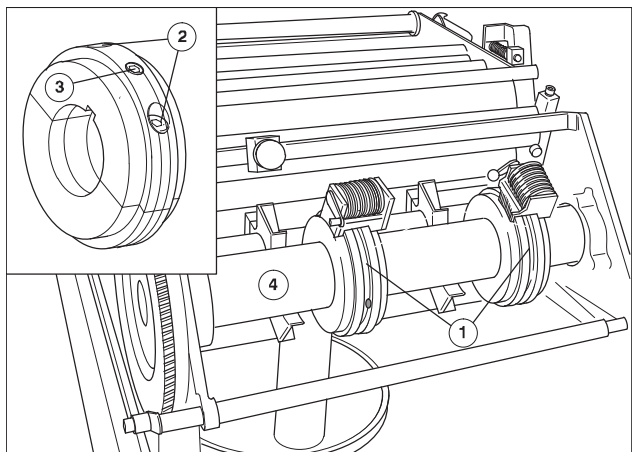

Fig. 2 Mounting rings
The mounting rings (Fig. 2/1) are mounted on the numbering shaft (Fig. 2/4) outside the press. Four mounting rings can be mounted on the numbering shaft.
The mounting rings consist of two half-rings that can be removed from the numbering shaft after loosening the screws (Fig. 2/2) .
1. Loosen the Allen screw (Fig. 2/3) with the operator tool, in order to move the mounting rings laterally along the numbering shaft.
2. Fix the position of the mounting rings with the Allen screw (Fig. 2/3).